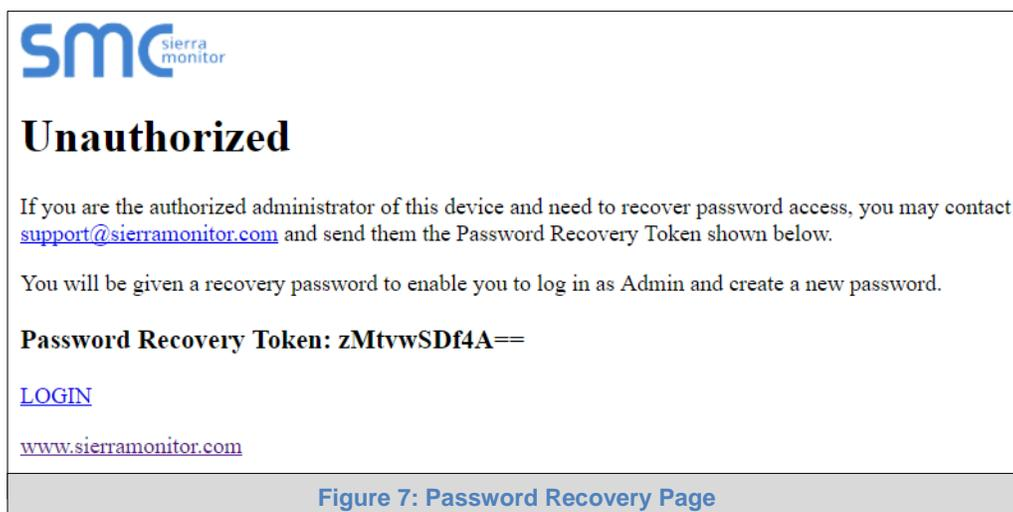

Figure 7: Password Recovery Page
- Figure 7: Password Recovery Page 12